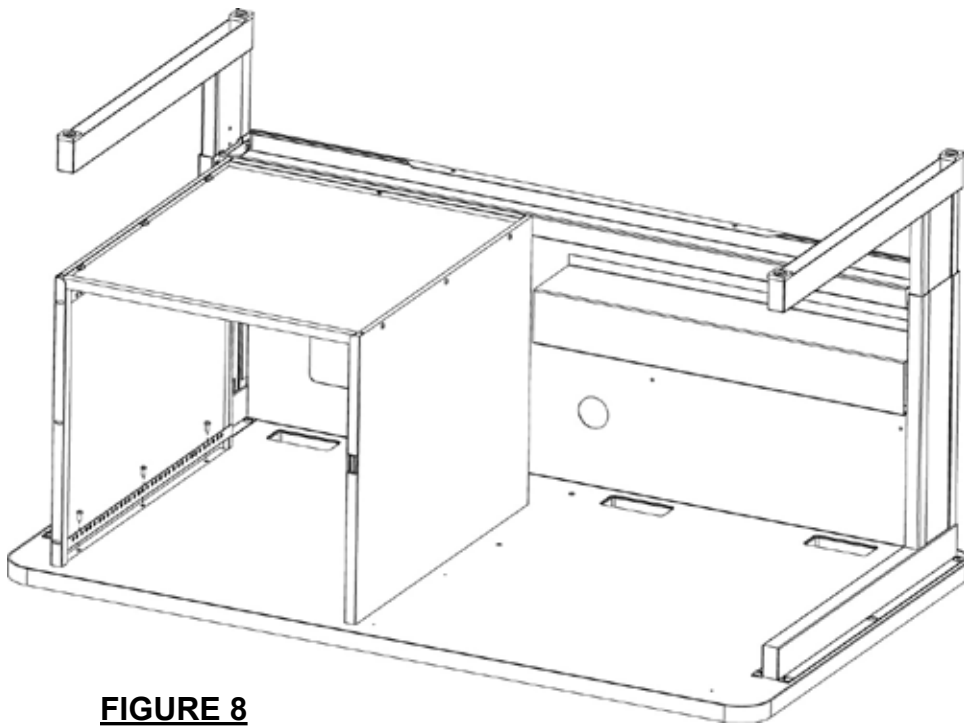

FIGURE 8
Secure cabinet sides to wood top using screws (EE) as shown in **FIGURE 8**. **FIGURE 9** shows the clearance hole for the screw to pass through when attaching to the top.